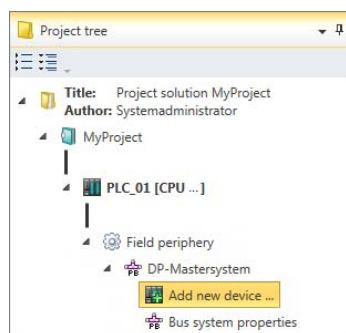

Fig. 63: Adding slave via "Project tree"
- **Project tree:** Within the PLC under 'Decentralised periphery' and the suitable bus system (e.g. DP master system), click on 'Add new device'. Fig. 63